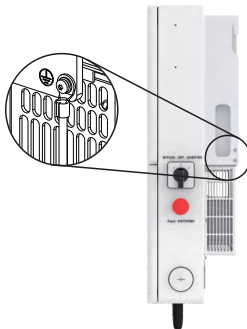

Figure 5.15 External Grounding Conductor Terminal Location
2. Remove the red jumper from the RSD_IN and RSD_OUT terminals (see Figure 5.15)